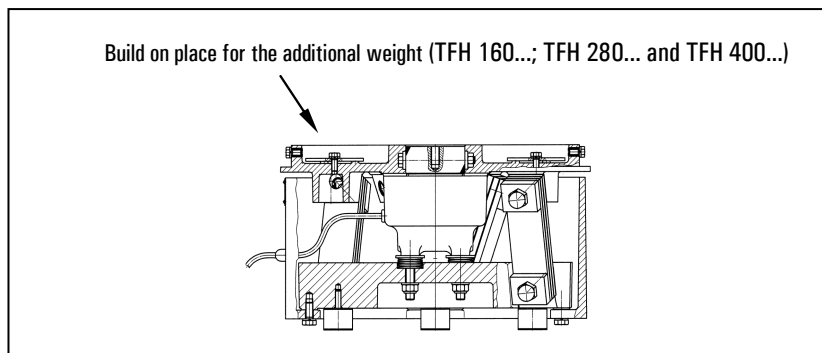

Figure 4-1 Build on place for the additional weight
- ☞ Mount the working unit and if required, the additional weights (see figure 4-1). The fixing of the working unit (bowl) is carried out on the side of the bowl. The appropriate screw tightening torque is shown in table 4-2 below.